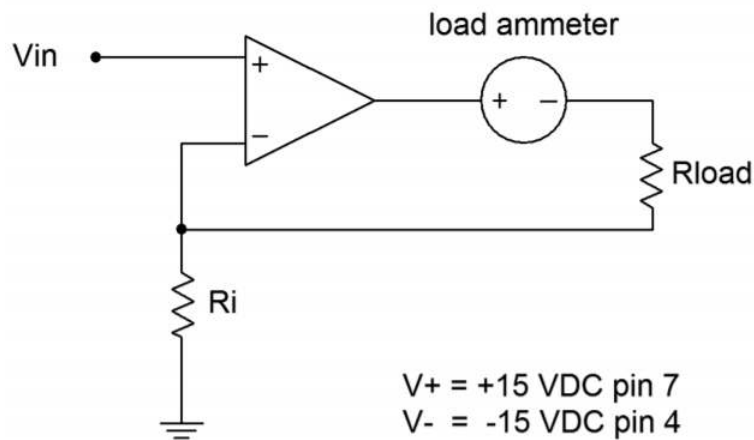

Figure 7.5.1
1. The transconductance of the voltage-to-current transducer can be determined from R_i . Based on the R_i values, calculate the expected I_{load} for the circuit of Figure 7.5.1, and record them in Table 7.7.1.
2. Assemble the circuit of Figure 7.5.1 using $R_i = 1\text{k}\ \Omega$ and $R_{load} = 100\ \Omega$.
1. What is the effect as R_i is increased in the circuit of Figure 7.5.1?